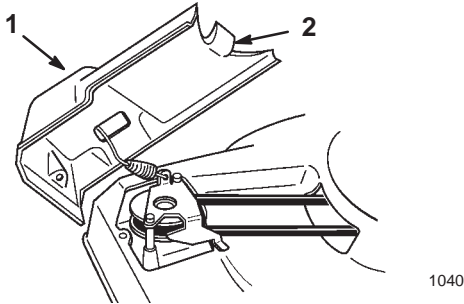

Figure 21
1. Remove the screw from the belt cover and slide the belt cover to the rear, unhooking the tab on the front of the cover from the deck opening (Fig. 21).
2. Tilt the cover up to the side and remove debris from under the cover and pulley groove (Fig. 21).